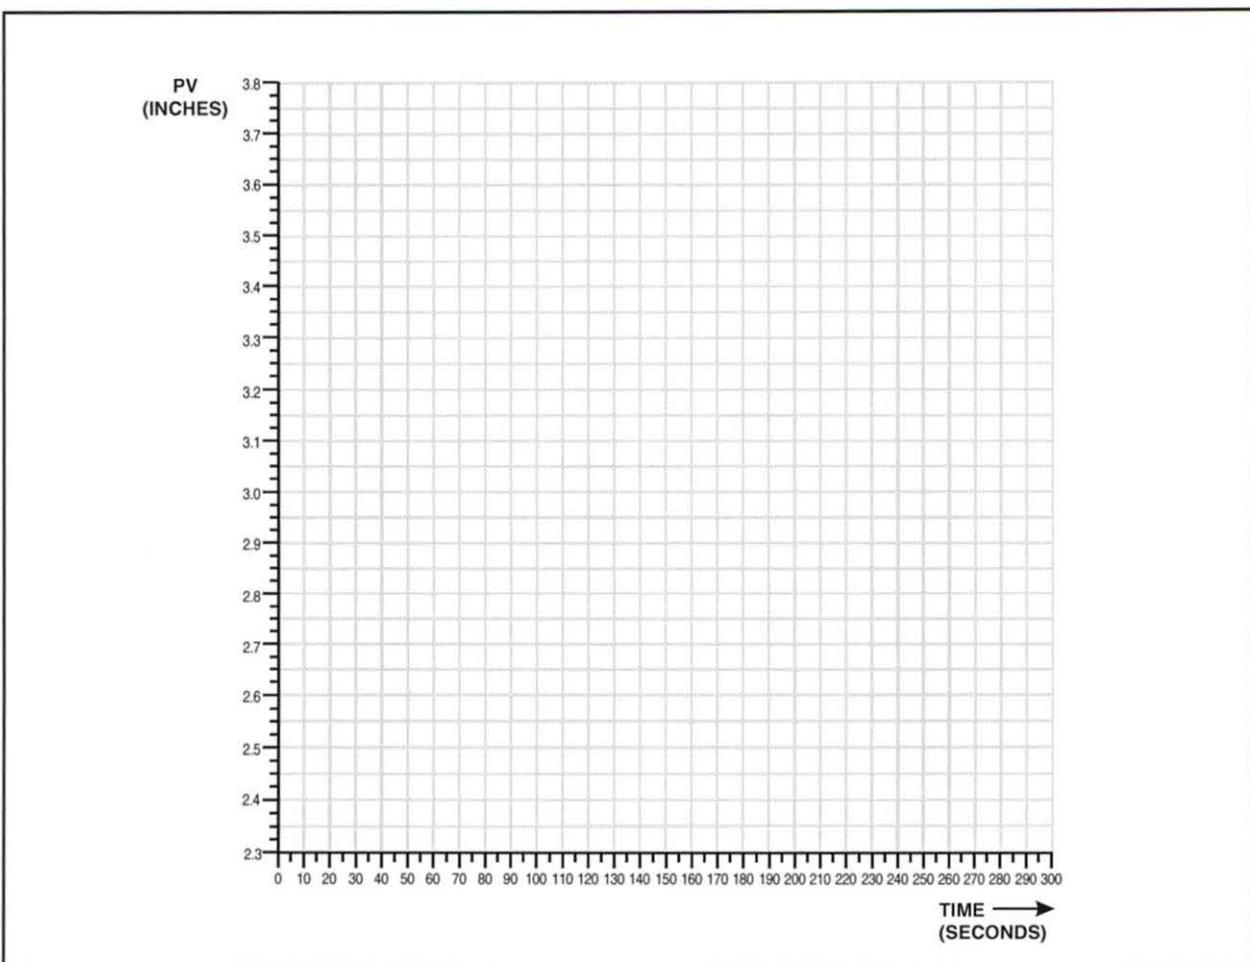

Figure 40. Graph of PV vs. Time
- E. Create a graph of PV vs. time, similar to figure 40, on a piece of graph paper.